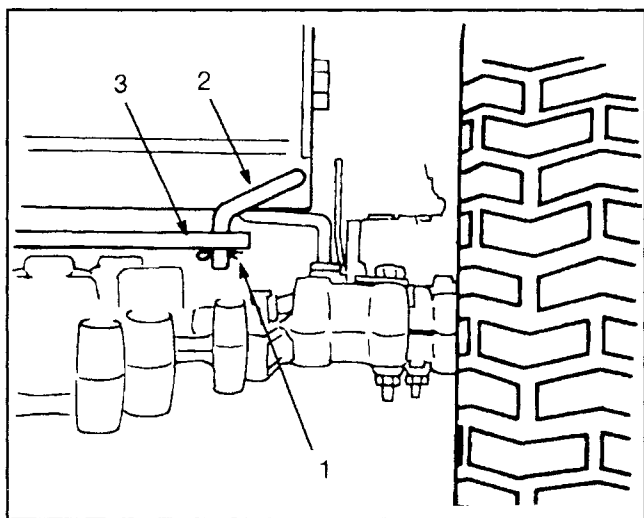

Figure 31
1. Remove cotter pin from rod on right side of transaxle as viewed from the rear of the unit (Fig. 31).
2. Lift rod out of bracket hole (Fig. 31).